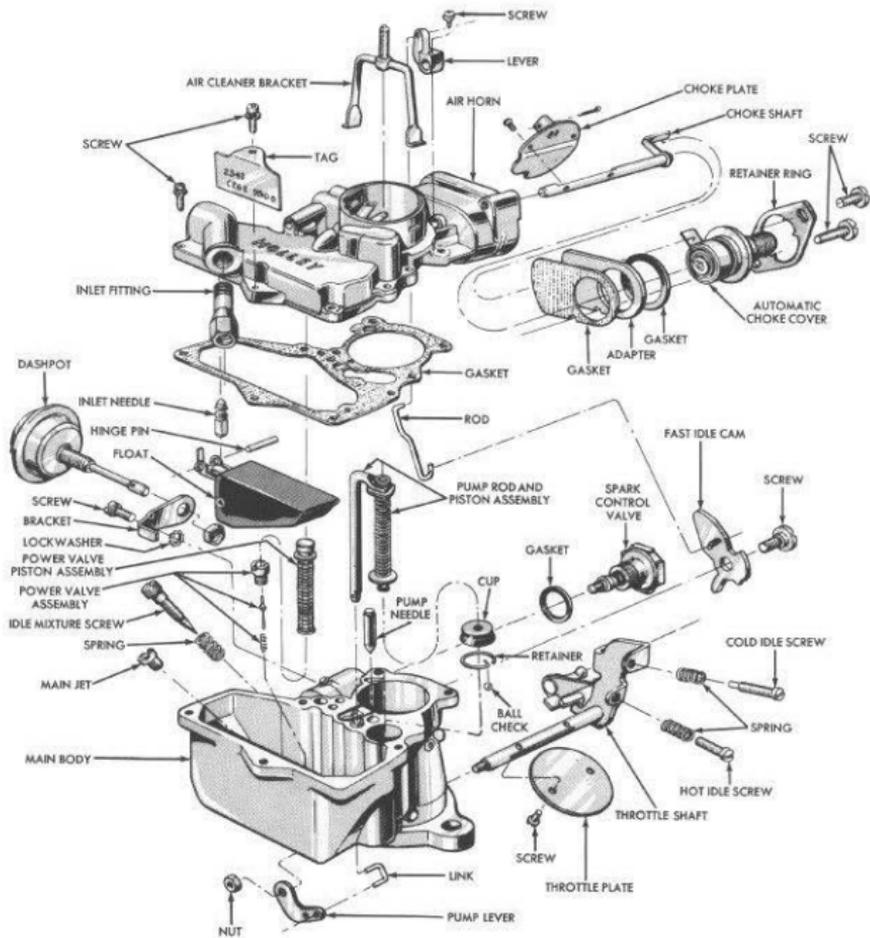

FIG. 19—Holley Single-Barrel Carburetor
**Disassembly.** Refer to Fig. 19.